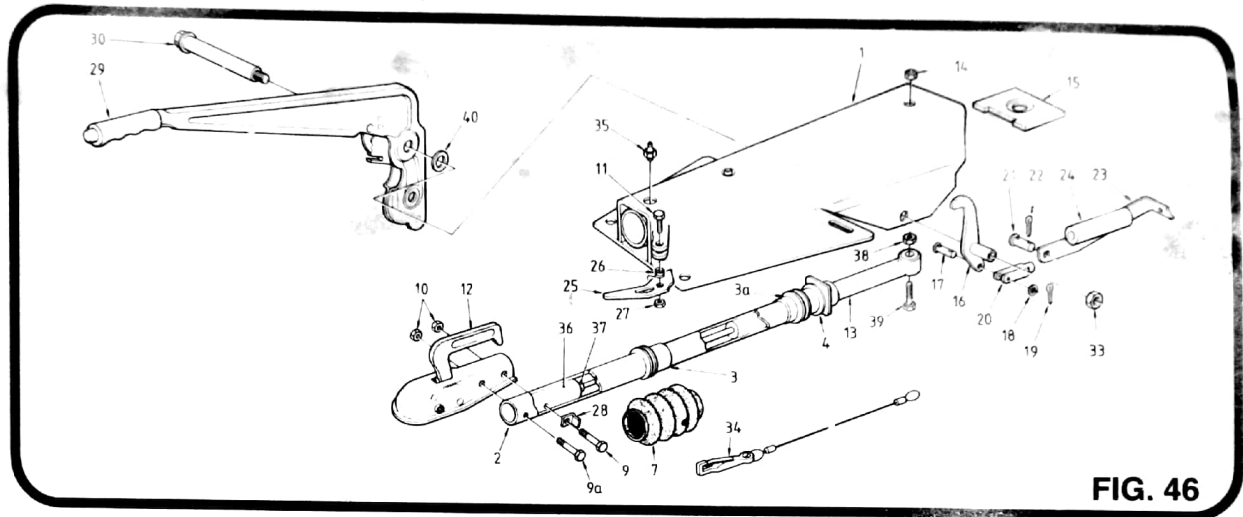

FIG. 46
- (m) The shock absorber will slowly extend. As it does so, insert the remaining bolt (22) so that it passes through the ball coupling, towing tube and the outermost eye of the shock absorber. Secure using the remaining nut (23).
3.5 Change a shock absorber on types 30S/60S-2/90S-3 (Fig. 46)